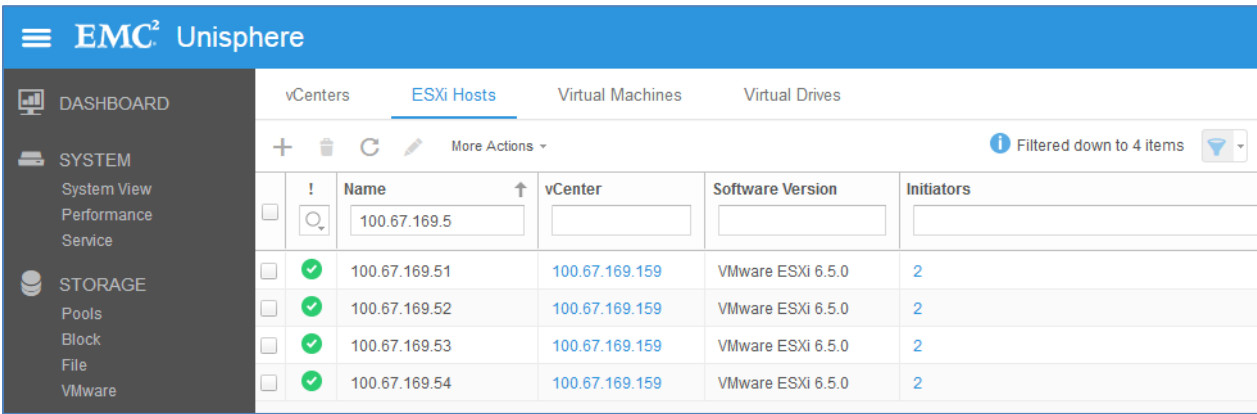

Figure 24 ESXi Hosts added to Unisphere
8. The list of added ESXi hosts is displayed under the **ESXi Hosts** tab, as shown in Figure 24.